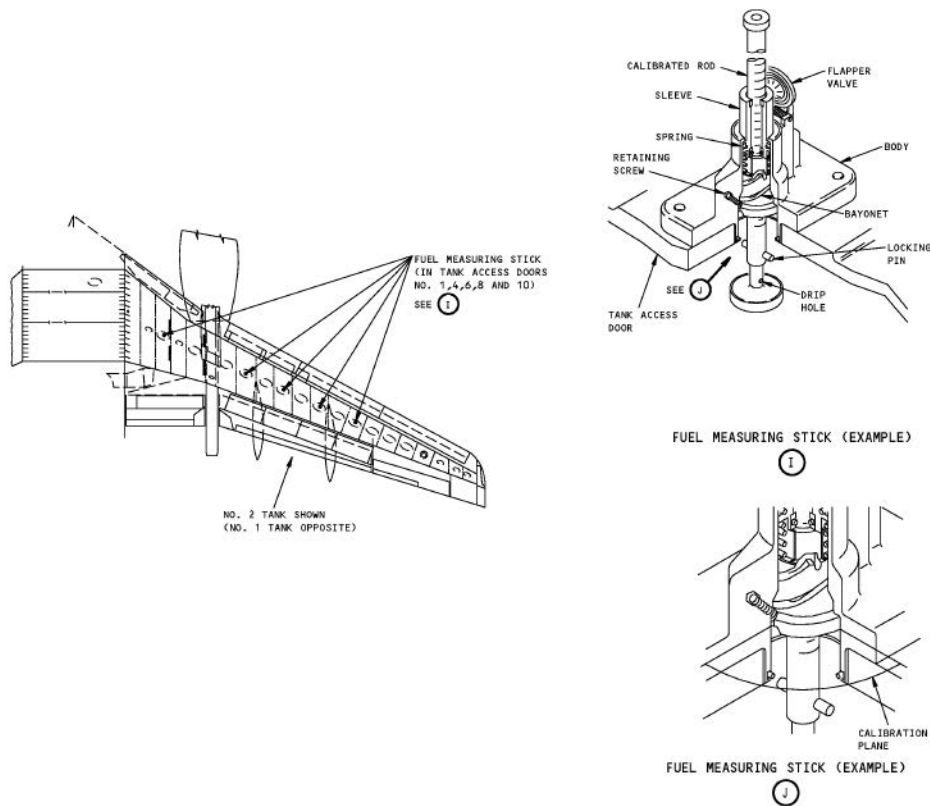

Figure 5-3: B-737-400 Fuel Measuring Stick Assembly
1. The B-737-400 has five measuring stick assemblies installed through the bottom of each wing, for a total of ten assemblies, refer to Figure 5-3: "B-737-400 Fuel Measuring Stick Assembly".